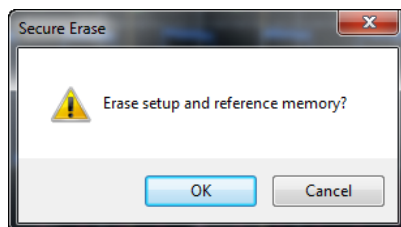

Figure 2-155 Secure Erase dialog
- 2 The Secure Erase confirmation dialog is displayed as shown in Figure 2-155. Select **OK** to perform the secure erase operation.